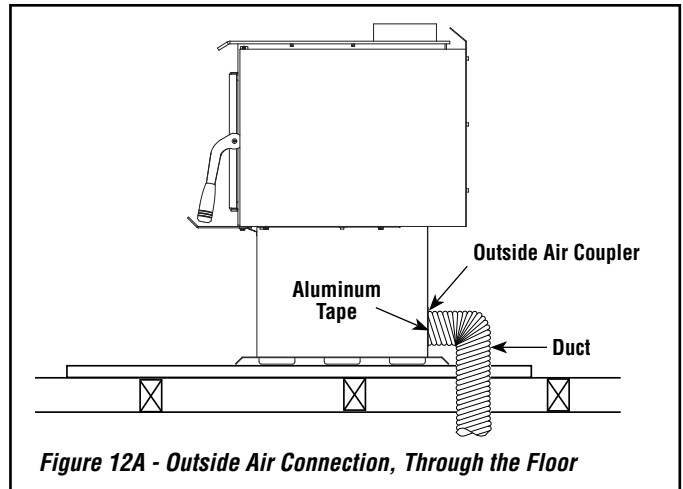

Figure 12A - Outside Air Connection, Through the Floor
- Attach the duct to the coupler on stove (*see Figures 12A and 12B*). Using the aluminium tape provided, wrap the tape around the joint between the flexible duct and the air inlet.